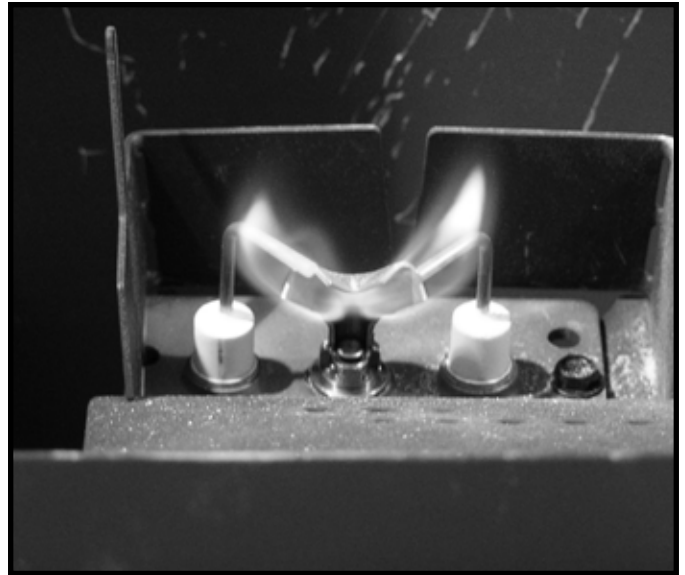

Figure 4.2 IPI Pilot Flame Patterns - Generic Photo
- Inspect pilot flame pattern and strength. See Figure 4.2 for proper pilot flame pattern. Clean or replace orifice spud as necessary.